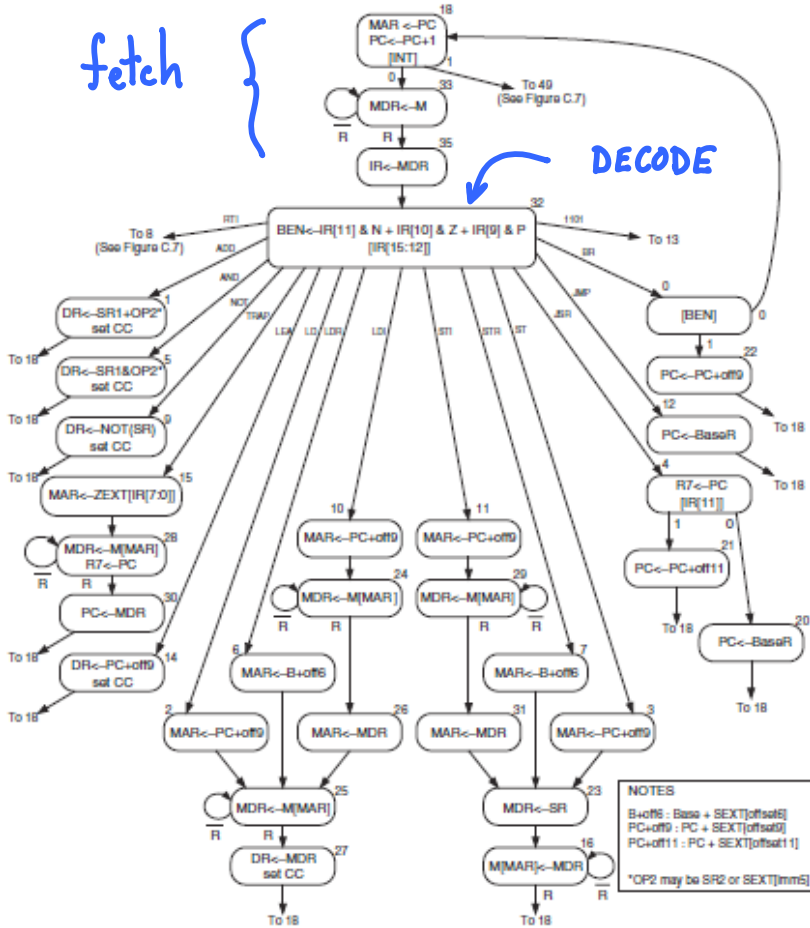

Figure C.2 A state machine for the LC-3
- LC-3 FSM state diagram: App. C, Fig. C.2 and C.7